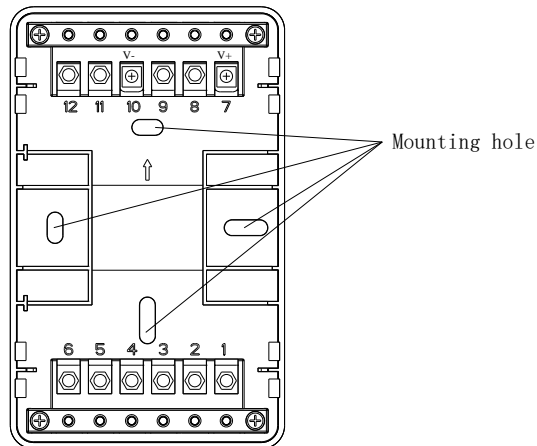

Fig. 3 C-9401N Base box
4. The base box of C-9401N is shown in Fig. 3, please note direction when installing.